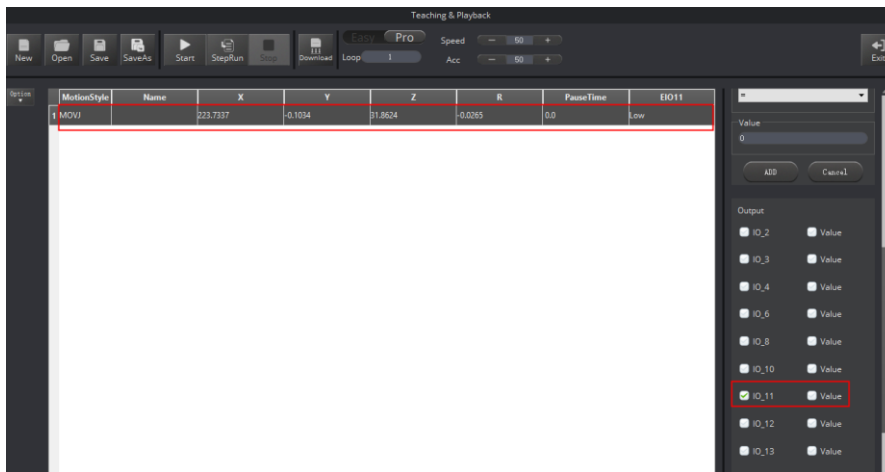

Figure 5.212 Saved point
Step 2 Select **IO_11** on the Output pane, and click **+Point**, as shown in Figure 5.212.